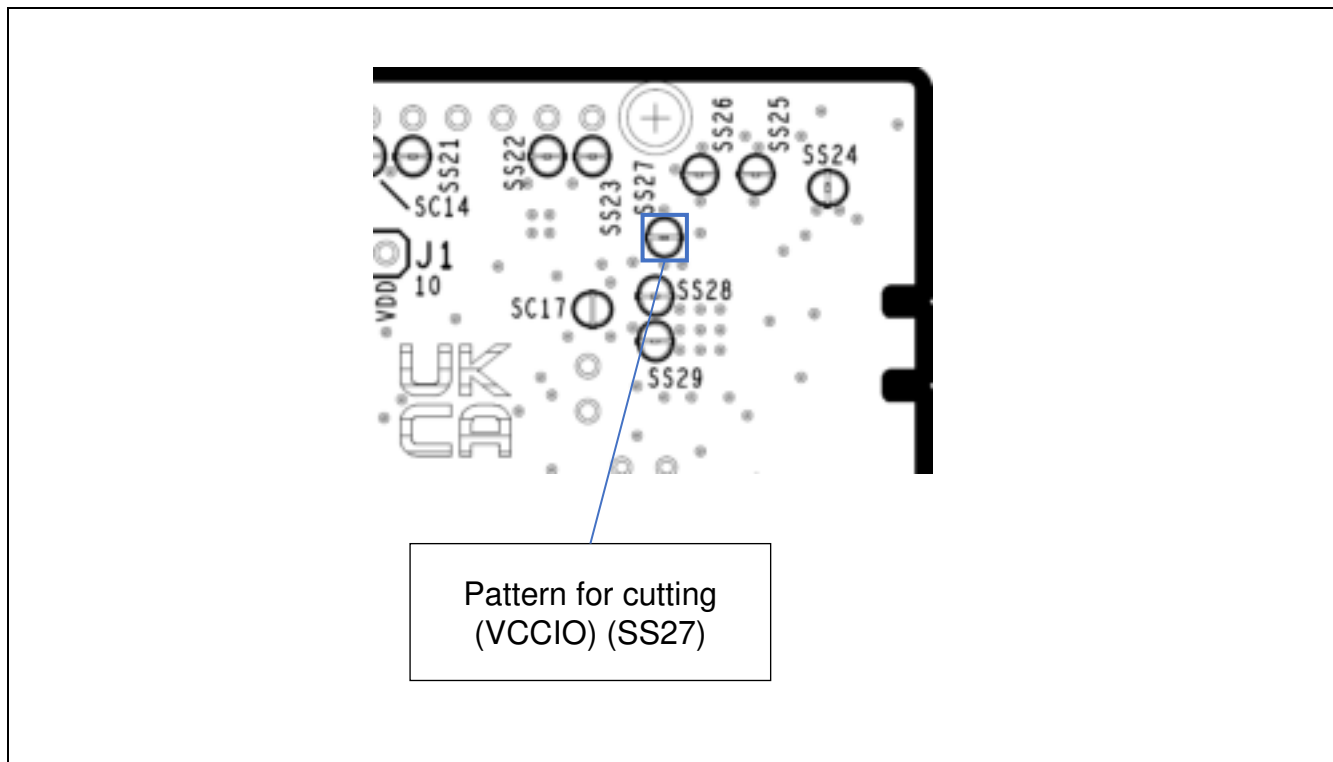

Figure 5-10 Position of the Pattern for Cutting (VCCIO)
Insert an ammeter between the sockets of the current measurement header (J7) to measure the current. Cut the pattern for cutting (SS27) (Figure 5-10) and turn down the LED to reduce the current drawn with an MCU other than the evaluation MCU.
If you intend to use this board without connecting a USB connector, cut the given pattern for cutting (SS27). Figure 5-10 shows the position of the pattern for cutting.
4. If power to be supplied to this product other than via the USB, make J15 open-circuit and cut the pattern for cutting (VCCIO) (Figure 5-10).